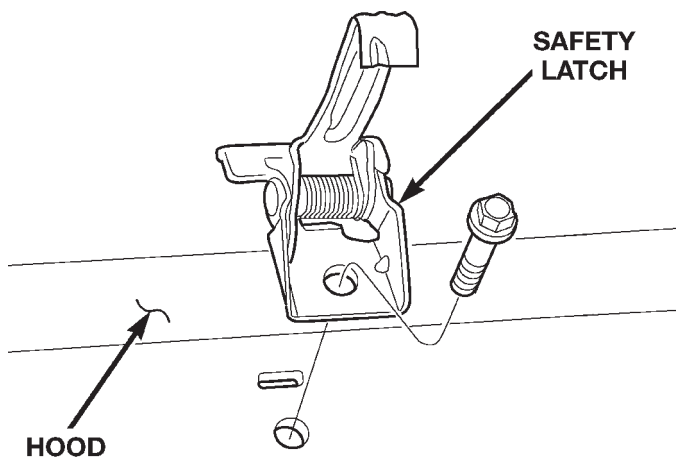

Fig. 3 Hood Safety Latch
(1) Raise and support the hood.
(2) Remove the bolt attaching the safety latch to the hood (Fig. 3).
(3) Remove the latch from the hood.